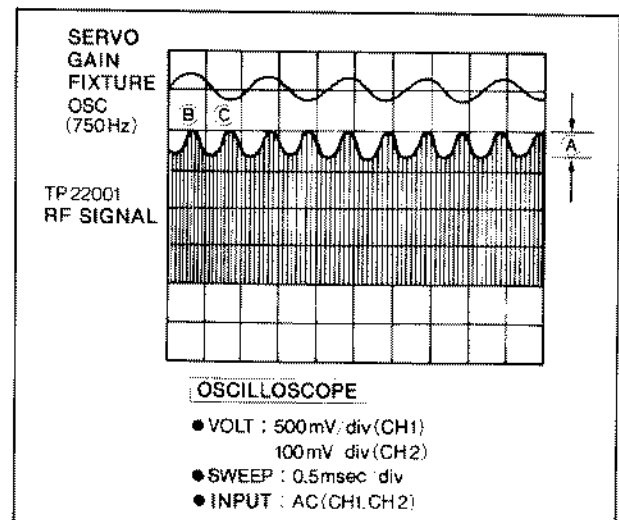

Fig. E19
6. Adjust VR22054 (F-N BAL) on the Servo C.B.A. so that the amplitude (A) of RF signal is at a minimum or the amplitude (B) and (C) of RF signal is at the same level as shown in Fig. E19.